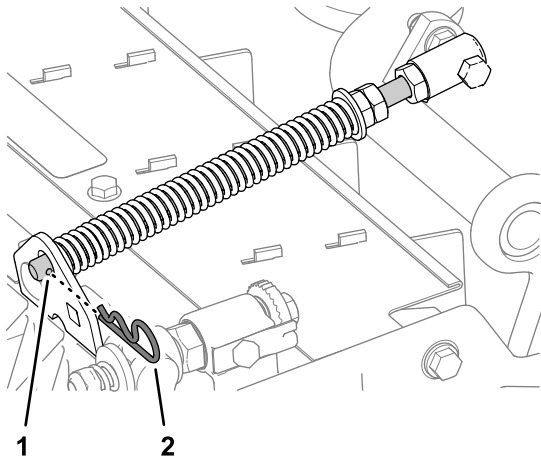

Figure 15
2. Ensure that the hairpin is installed in the rear hole in the spring rod (Figure 15).